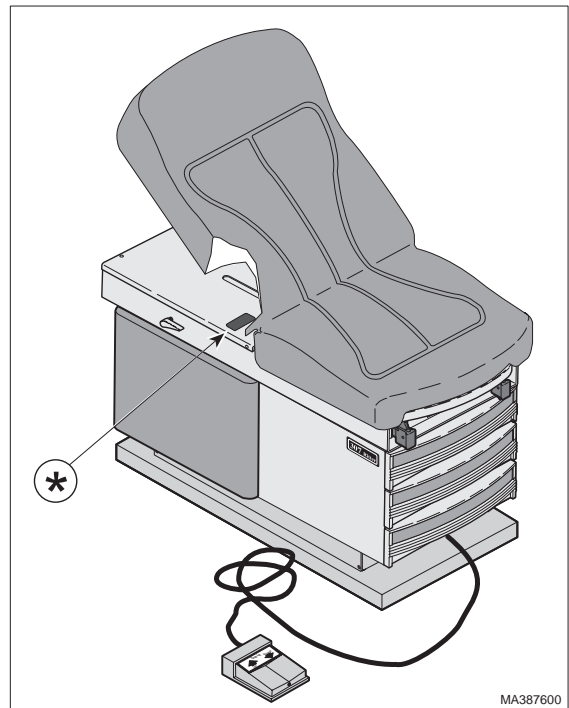

Figure 1-3. Model Number / Serial Number Location
- (1) Refer to Figure 1-3 to determine the location of the model number and serial number of the table and record this data.
- (2) Refer to the Parts List to determine the item numbers of the parts, part numbers of the parts, descriptions of the parts, and quantities of parts needed and record this data (Refer to para 6.1).